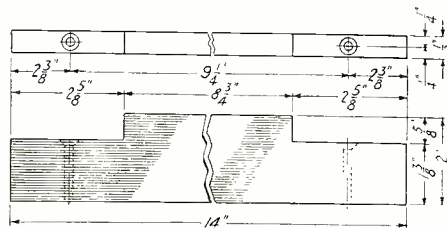

Fig. 3
(1) Mount the switchlever and each switchpoint fully before proceeding to the next; this gives plenty of room for the pliers in tightening the nuts. (Two little stops should be cut from a strip of brass or tin for the two end points.)
(2) In mounting the variometers, secure them to the panel with four 1" No. 8 flat-head wood screws. The front of the variometers should be spaced away from the panel about 1/8" to prevent accidental grounding to the panel. Two wood-spacers 1"x3 1/2", of cigar-box or other thin wood, shellacked, should be employed. Care should be taken to drill holes to pass the 1" assembly screws.
(3) Mount the variocoupler.
(4) Mount the filament rheostat. If Cutler-Hammer is used, it is best to mount with the terminals down.
(5) Mount jack.
(6) Mount binding-posts.
(7) Mount the wood-brace that serves also as a socket mount. The dimensions of this piece are shown in Fig. 3. This brace should be mounted 1/2" above the variometer base and care should be exercised to see that it is mounted square. Use 2" No. 6 flathead woodscrews and take care they do not penetrate the stator windings.